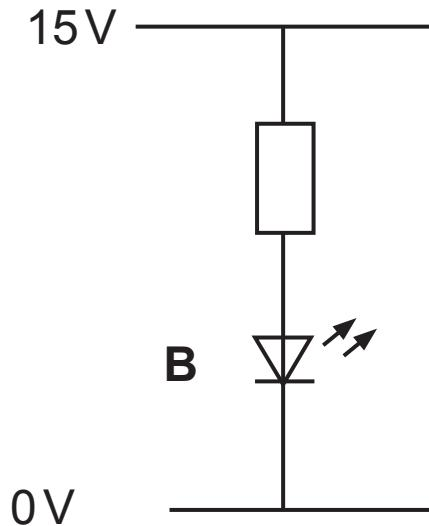

Fig. 3
- (b) (i)** Name the component labelled B in Fig. 3 below.
- (ii)** If component B is rated at 2V, 20mA, calculate in the space below the minimum value for the resistor in Fig. 3. [3 marks]